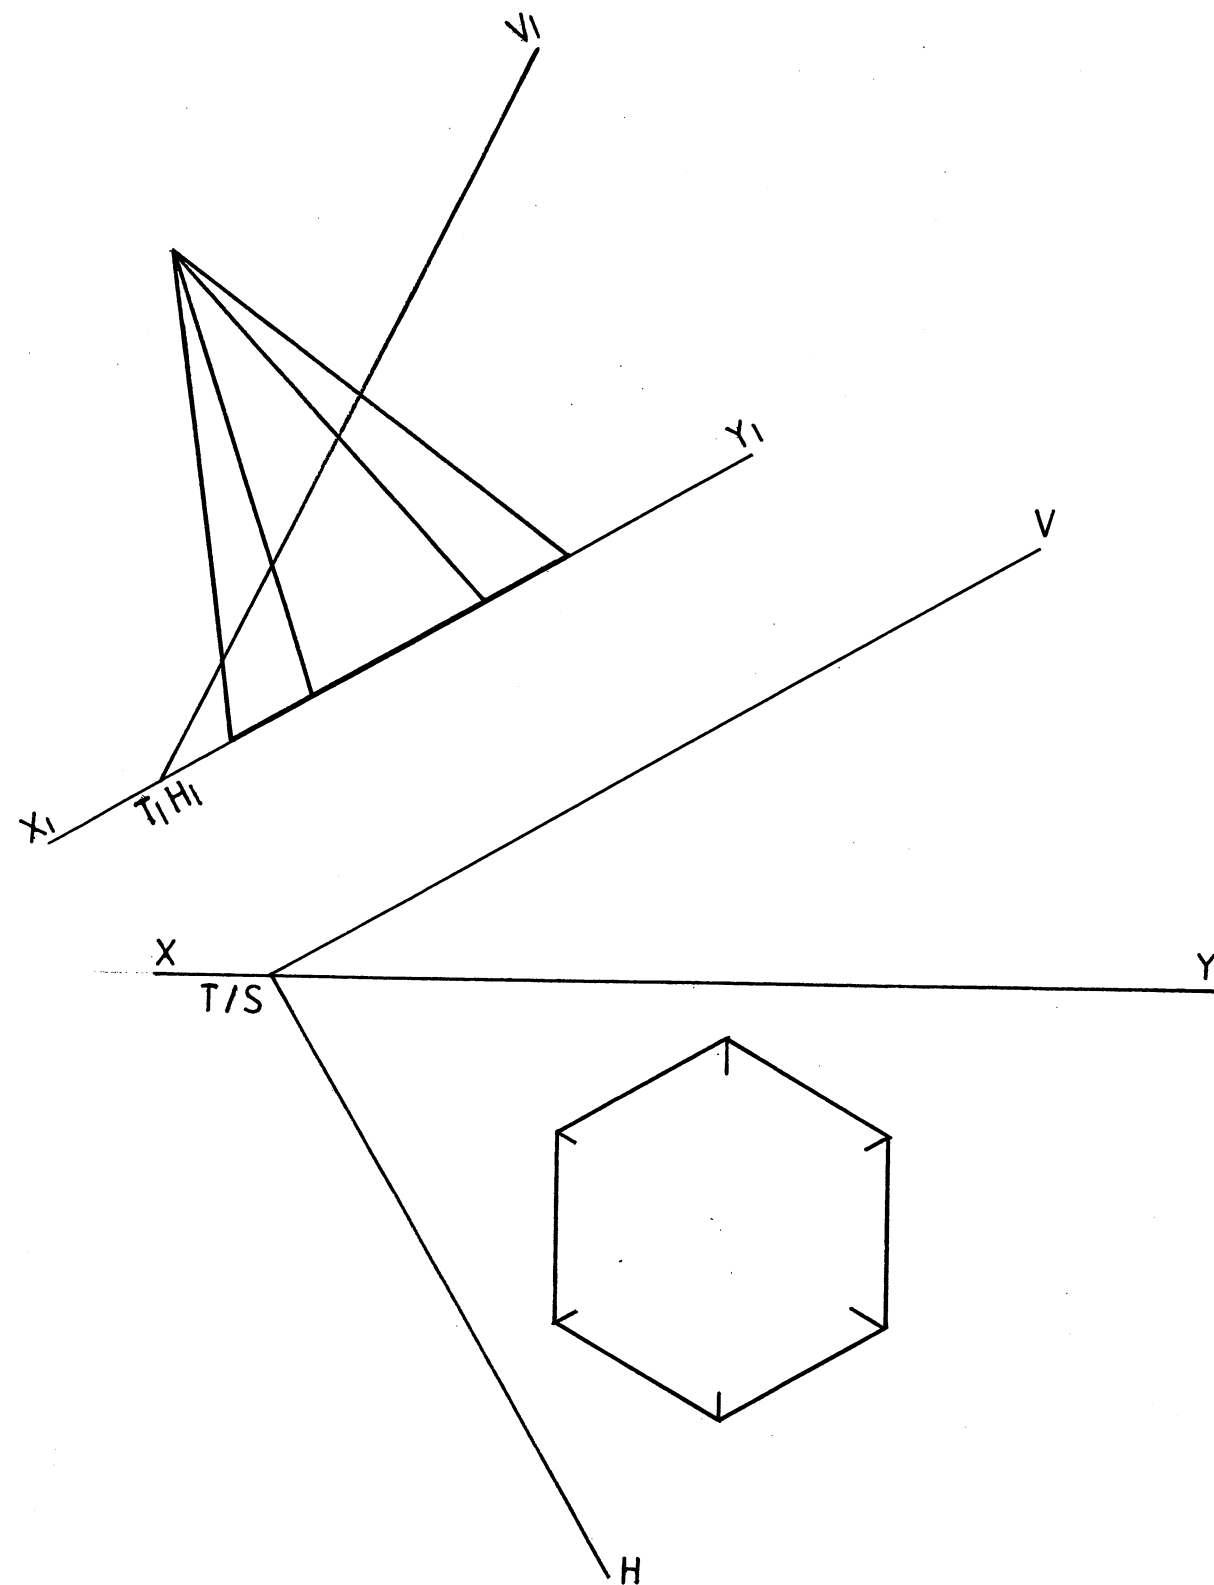

FIG. 6
**Figure 6** shows the traces **VTH** and incompleted top view of a hexagonal pyramid. The auxilliary view of the pyramid and inclined plane is also shown.